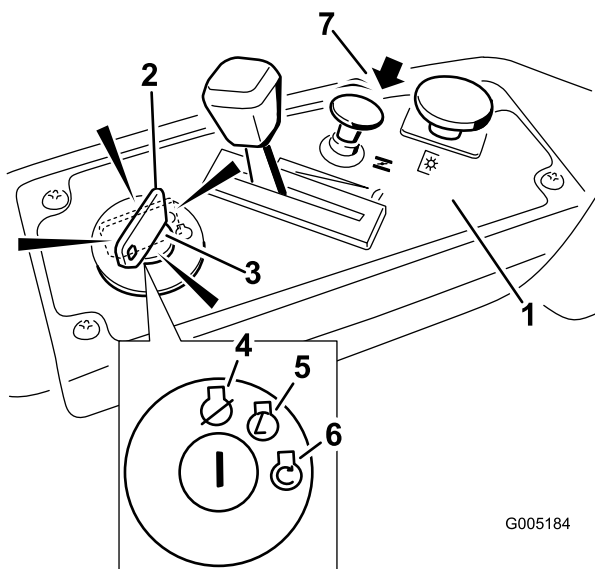

Figure 10
3. Pull up on the Choke control before starting a cold engine (Figure 10).
4. Turn the ignition key to Start to energize the starter. When the engine starts, release the key (Figure 10).
5. After the engine starts, push down on the Choke control (Figure 10). If the engine stalls or hesitates, pull up on the Choke control and let the engine run for a few seconds. Then push down on the Choke control and move the throttle lever to the desired setting. Repeat this as required.
2. Move the throttle lever to between Fast and half throttle (Figure 10).